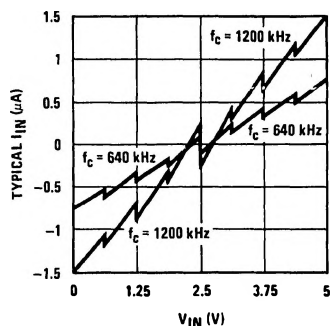

FIGURE 6. Comparator  $I_{IN}$  vs  $V_{IN}$
**Note 6:** Comparator input current is a bias current into or out of the chopper stabilized comparator. The bias current varies directly with clock frequency and has little temperature dependence (Figure 6). See paragraph 4.0.
The average value of the comparator input current varies directly with clock frequency and with  $V_{IN}$  as shown in Figure 6.